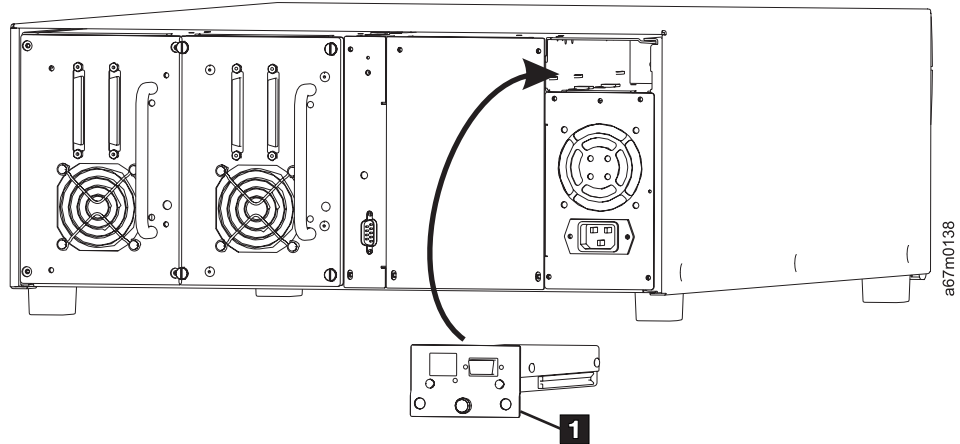

Figure 97. RMU module installation
- ___ 3. Slide the RMU (see **1** in Figure 97 on page 218) into position and tighten the thumbscrew.